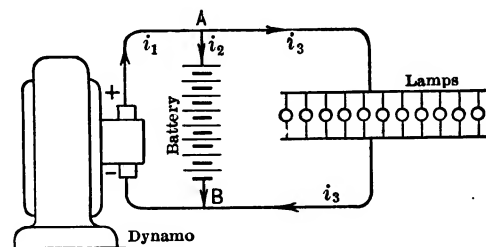

FIG. 2.—Application of Kirchhoff's Rules.
A 120-volt dynamo, Fig. 2, and a storage battery are connected in parallel to a number of lamps whose combined resistance is 1 ohm. The voltage of the battery is 116 and the resistance of the battery circuit is 0.10 ohm. The resistance of the dynamo circuit from (B) to (A) is 0.10 ohm. Will the battery be charged